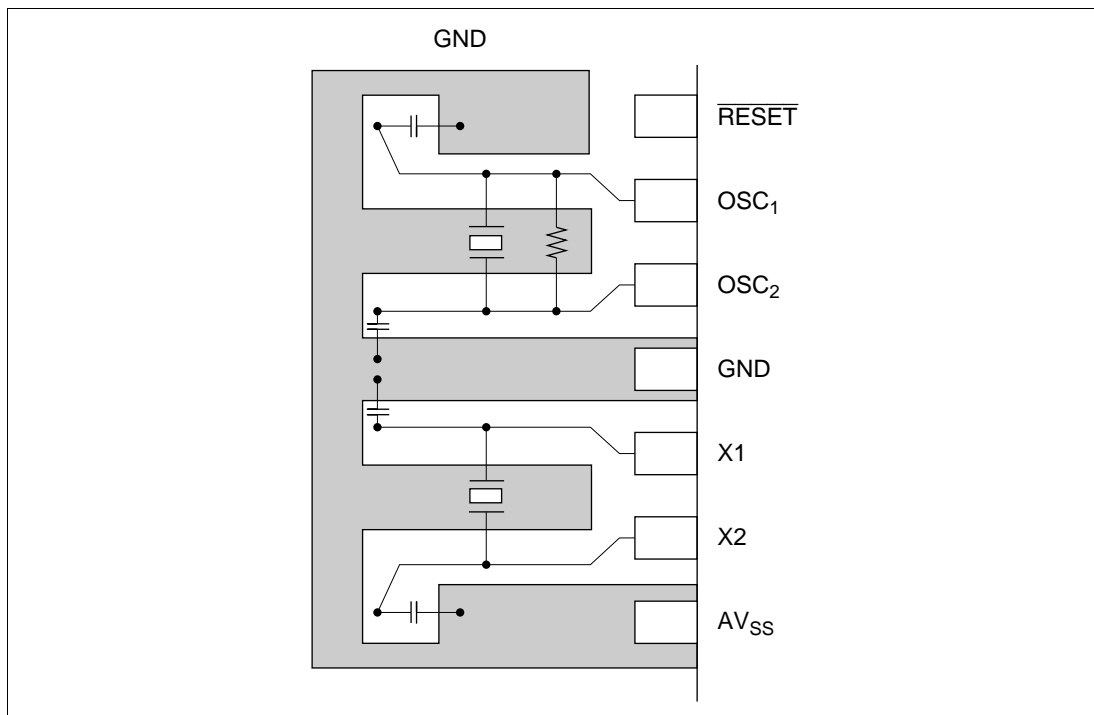

Figure 14-2 Wiring Example for Crystal and Ceramic Oscillators
- The distance between the OSC₁ and OSC₂ pins (and X1 and X2 pins) and the devices connected to those pins should be kept as short as possible. Do not allow any other lines to cross those lines. (See figure 14-2.) Correct oscillation may become impossible due to induced signals if any lines cross.